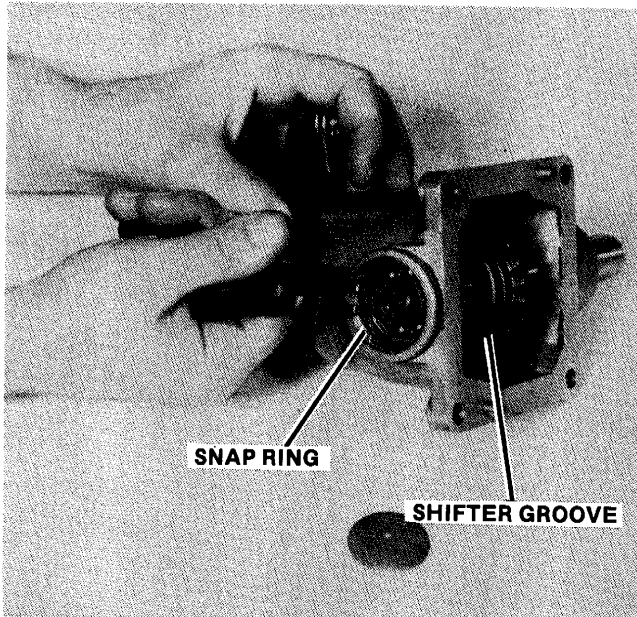

FIGURE 20
2. Remove snap ring from PTO shaft. See Figure 20.
3. Shifter groove of PTO gear should face front of case. See Figure 20.
Use Permatex No. 3 on threads of the upper front mounting screw ONLY. Figure 20. Torque screws to 10-15 lbs.-ft. (1.2-1.6 N·m).